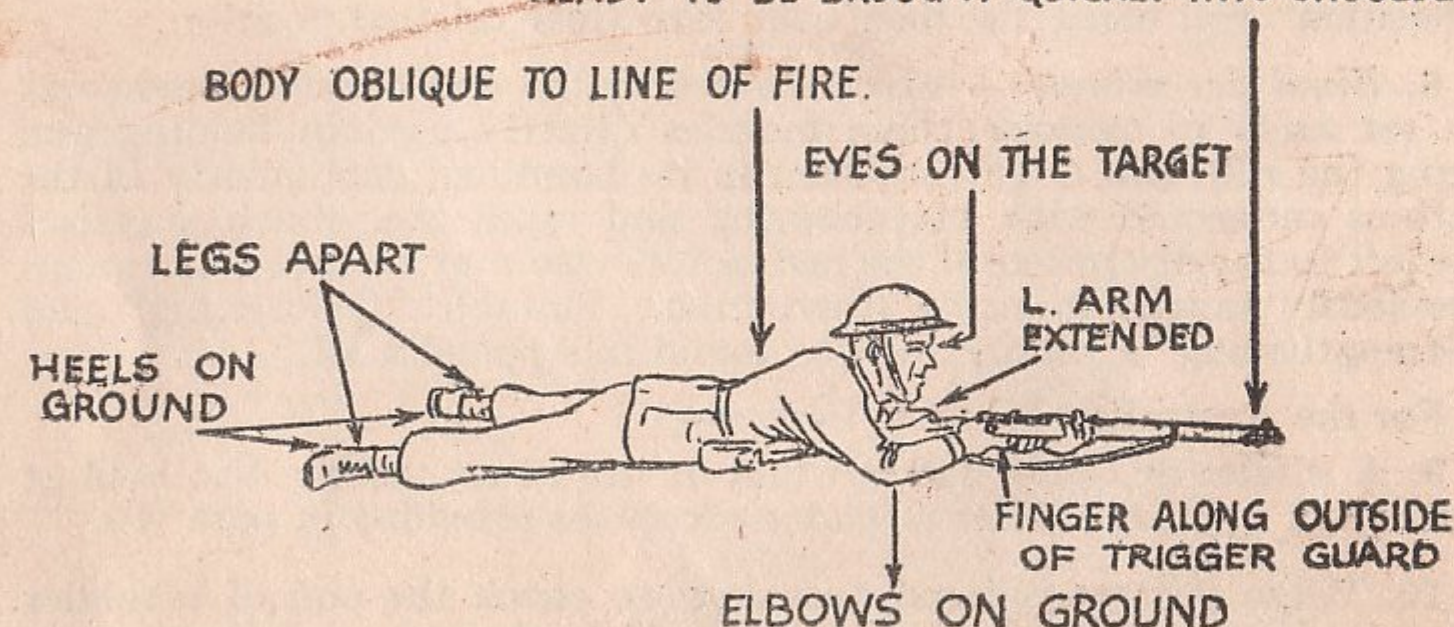

Fig. 13
*Man will be taught to adopt the lying position rapidly and to handle the rifle with as little movement as possible. The oblique angle of the body (see Fig. 13) must not be exaggerated.*
- i. To lie down.—Take a long pace forward to the right front with the left foot. At the same time change the rifle into the left hand, grasping it at the point of balance. Place the right hand on the ground in line with the left foot and lie down: the right hand finally assuming grip at small of butt, finger alongside trigger guard. (During this movement push the rifle forward in the direction of the target and lower it to the ground; the left arm will now be extended to the front) (see Fig. 13).
Instructor specifies points illustrated in Fig. 13.